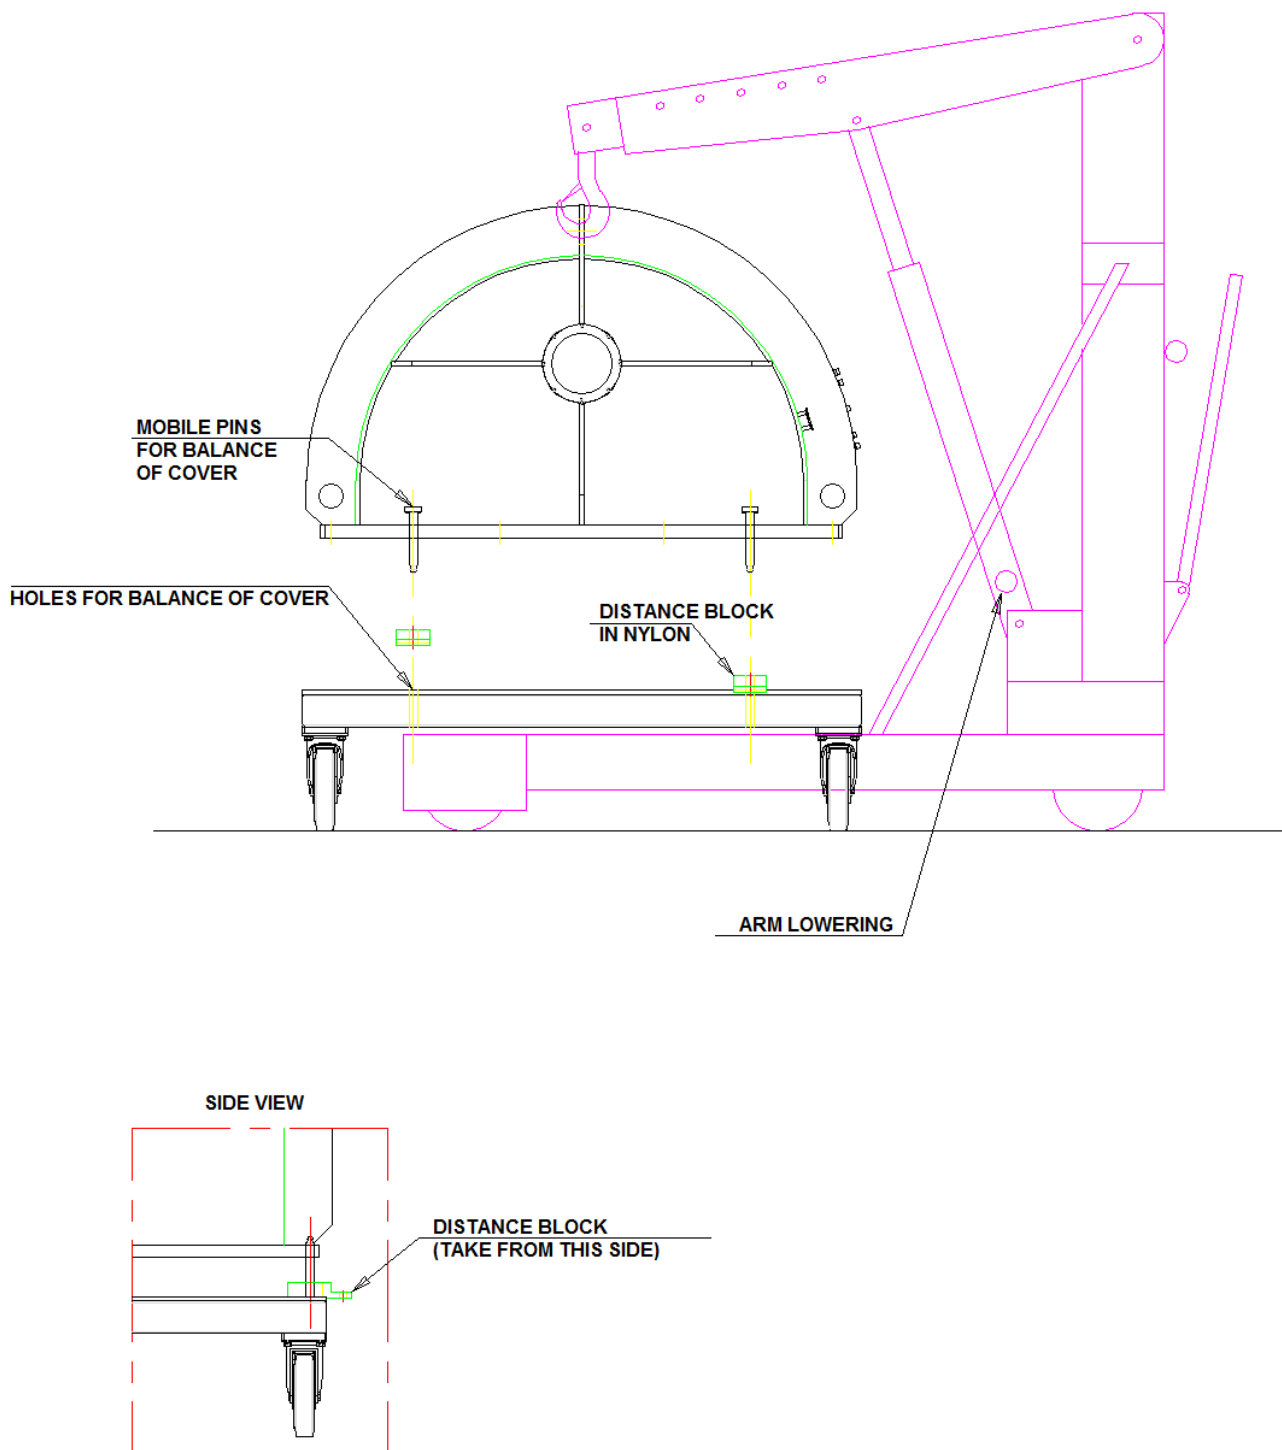

Figure 7: SPOCC cover handling procedure - SHEET 3
1. Place the trucks near the chamber, rest the nylon spacers near the guide holes (refer to Figure 7) and set up the four centring spikes.
Refer to the related scheme in Figure 7 (SHEET 3).